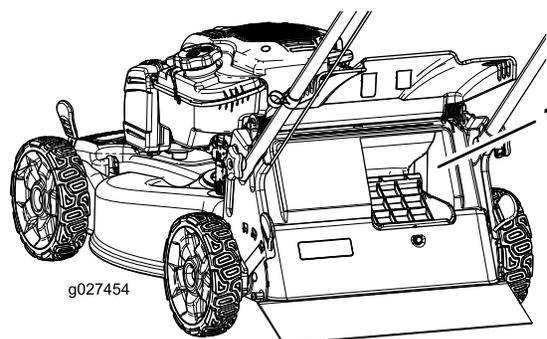

Figure 23
**Important:** For proper operation, remove any grass clippings and debris from the bag-on-demand door and the surrounding opening (Figure 23) before you move the bag-on-demand lever from 1 position to another.